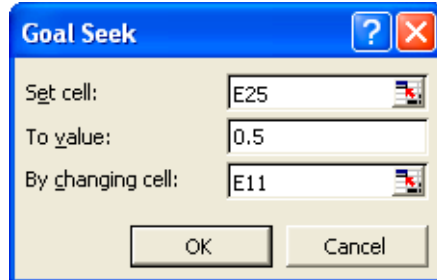

Figure 15 Changing the column length
- 2 Fill in **E25** (the splitter pressure in psig) as the set cell, **0.5** as the value, and **E11** as the cell to be changed (Figure 15).